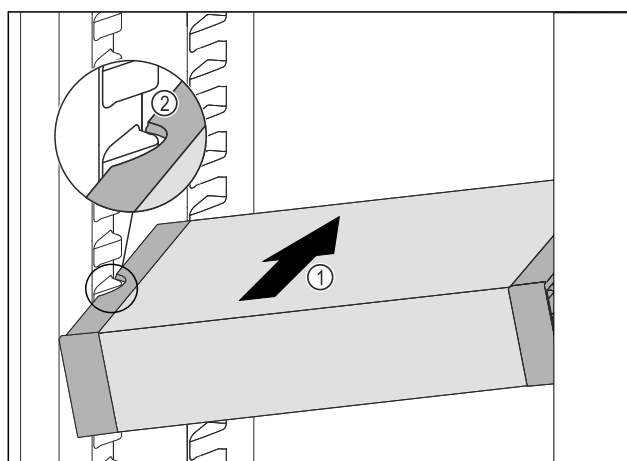

Fig. 102
- Insert the VarioSafe into the fridge section at an angle Fig. 102 (1) until the recesses in the side Fig. 102 (2) of the VarioSafe are at the level of the support rib in the fridge section.